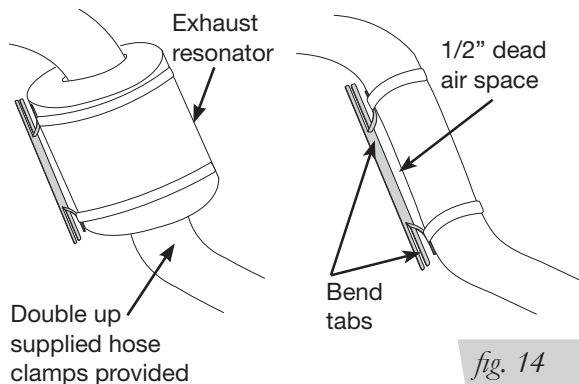

fig. 14
- Bend tabs to provide a dead air space between exhaust pipe and heat shield (Figs. 14 & 15). Attach the heat shield to the exhaust pipe using the clamps. Bend the heat shield for maximum clearance to the air spring.